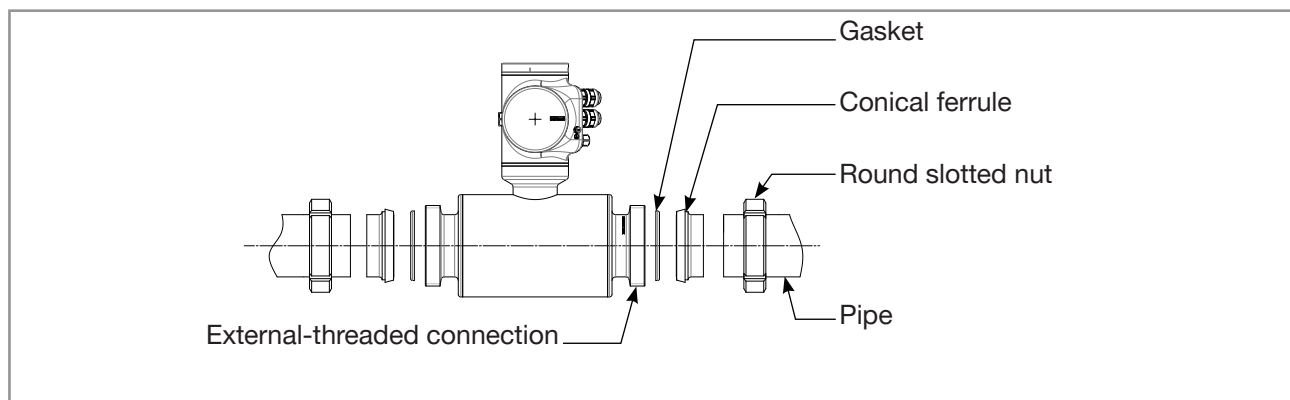

Fig. 19: *Mounting order of the accessories*
1. Put the round slotted nuts on the pipe. Respect the mounting direction of the round slotted nuts so that they can be screwed on the external-threaded connections of the device. Refer to Fig. 19.